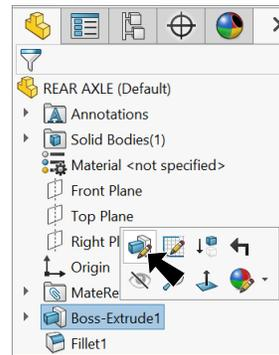

Fig. 13
Step 1. Click **Boss-Extrude1**  in the Feature Manager and click **Edit Feature**  in the context toolbar, **Fig. 13**.